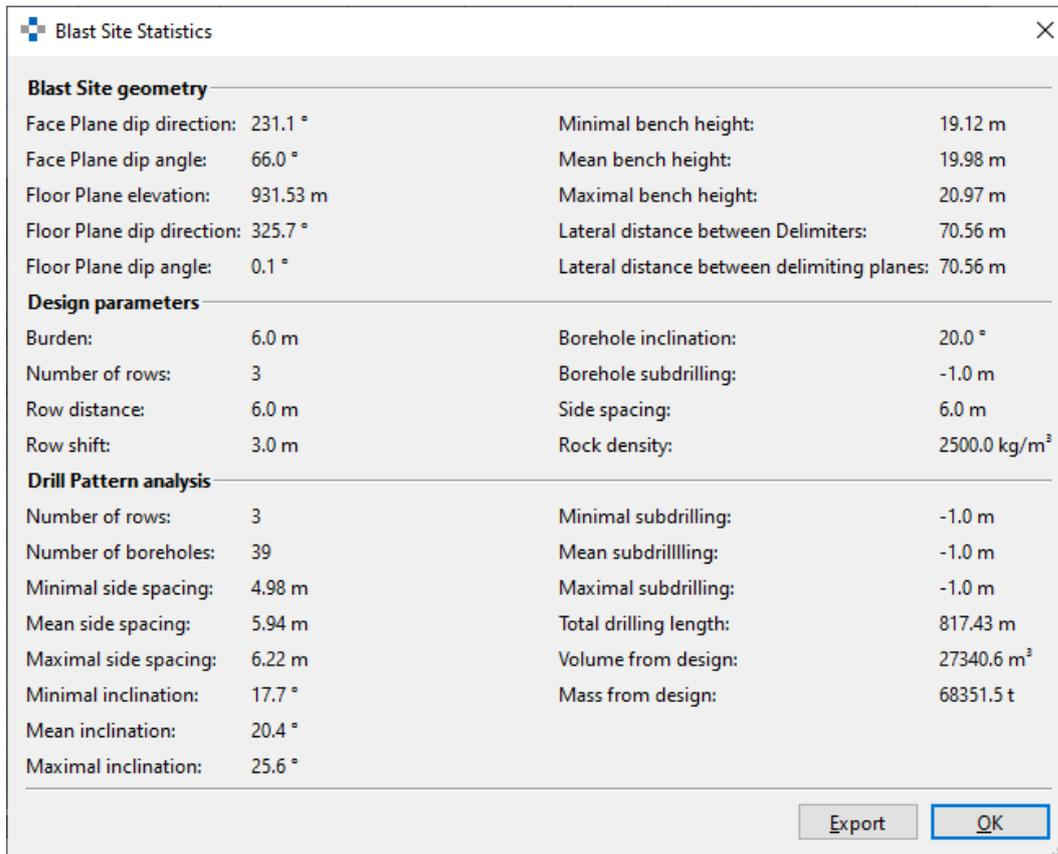

Figure 22: Statistics
11. A window with the geometric properties of the *Blast Site* appears when clicking on “*Blast Site | Statistics*” (see Figure 22). The values can be exported in a text file by clicking on the “Export” button. (“.csv” format; this can be read by spreadsheet programs like MS Excel).